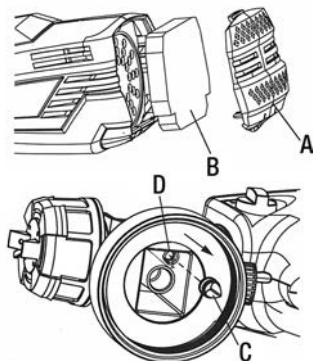

Figure 7
You should inspect the air filter (A) Fig.7 at the back of the body/motor assembly regularly to see if it is excessively dirty. If it is dirty, clean it as follows.
- 2) Unclip and remove the filter cover (B) Fig.7.
- 3) Remove and check the filter (A) for dirt. If the filter is dirty, rinse in clean water and leave to air dry.
- 2) Remove diaphragm (C) Fig.7 from ventilation hose (D), clean all parts and reinstall in reverse order.